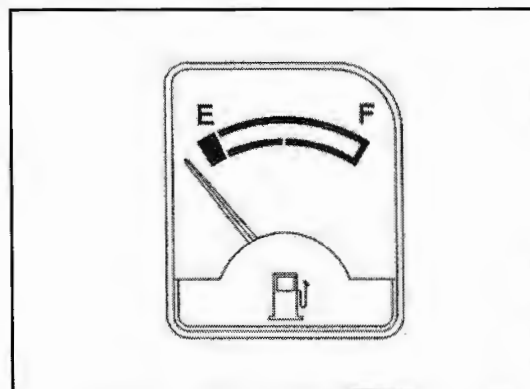

Fig. 11-4 - Fuel Tank Gauge
4. **Fuel Level Gauge** - When the tank is full, the needle will be at the extreme right side of the gauge indicating so by being on the "F" mark. As the tank empties the needle will gradually move to the left indicating an empty tank by the "E" mark. (See Fig. 11-4).